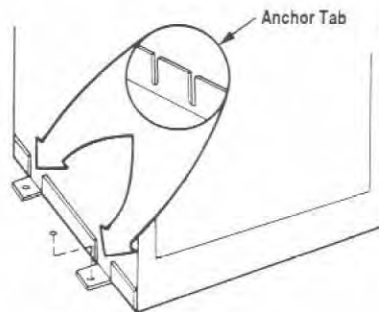

Figure 8
**Step 4.** Fireplace may be secured to the floor. Bend down four (4) anchor tabs located at the base of the fireplace and secure with nails (Figure 8).